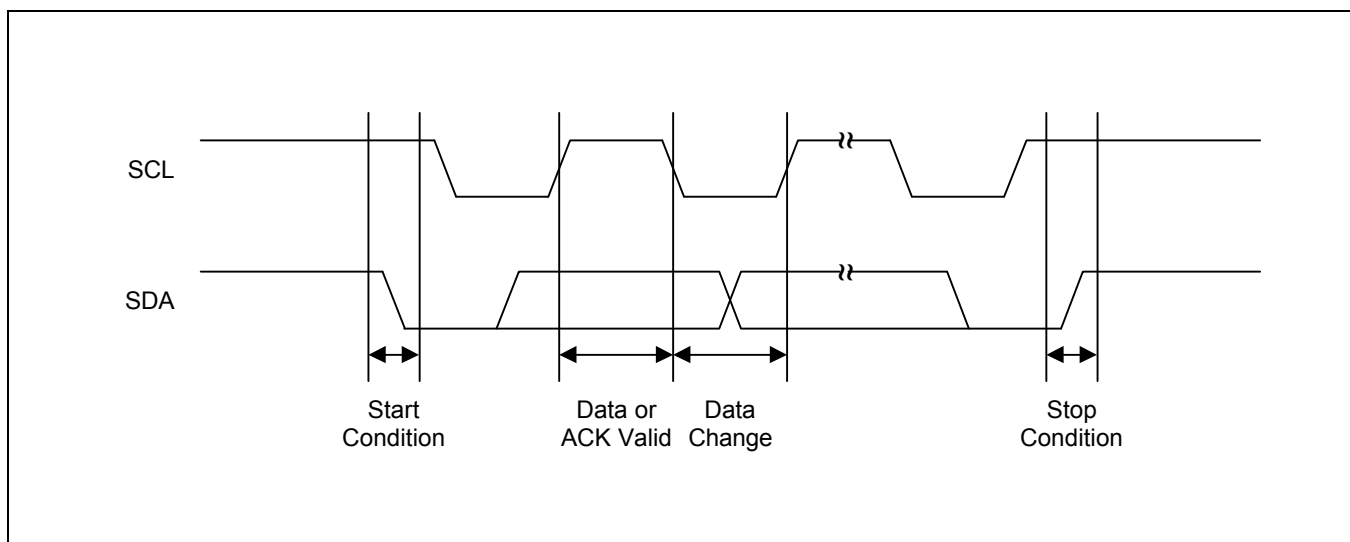

Figure 3-7. Data Transmission Sequence
- Stop condition: A stop condition is initiated by a Low-to-High transition of the SDA line while SCL remains High level. All bus operations must be completed by a stop condition (see Figure 3-7).